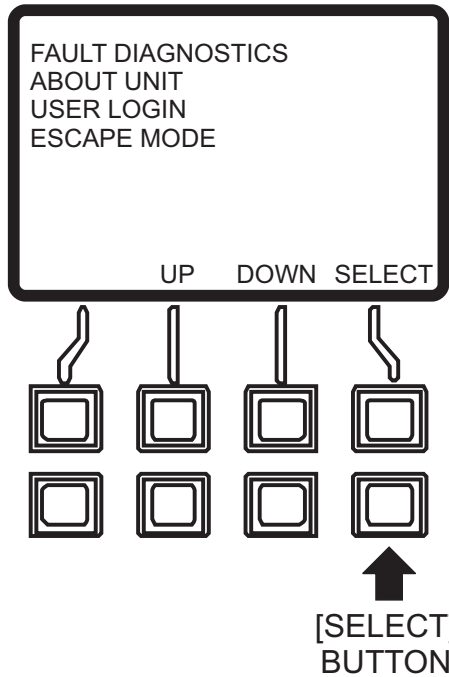

Figure 94. Main Menu (Select Button)
5. Press the **[SELECT]** button (Figure 94) to enter the “Escape Mode” menu.